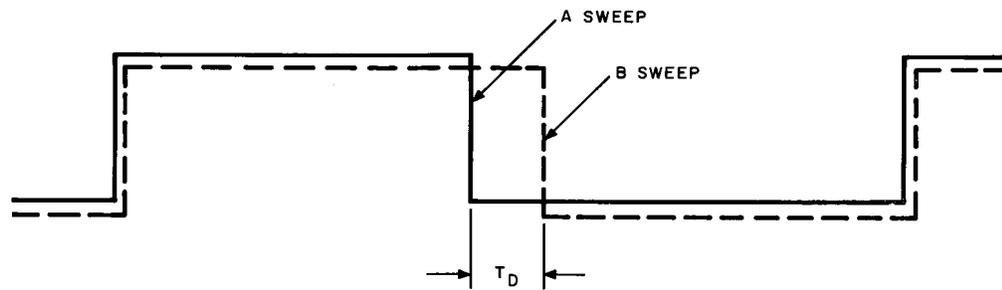

Fig. 68A — MIL. STD 188B Interface Test
- (2) Set the controls on the oscillator so that the input sine wave to terminal 7 is about 1.5 volts rms with a period of $200 (\pm 10.0) \mu\text{sec}$ (5000 Hz).
- (3) Make the following settings and connections on the scope:
- (4) Adjust the TIME BASE B STABILITY and TRIGGERING LEVEL controls to obtain a display of the waveform on test point 4. Overlay the CHAN A and CHAN B waveforms as shown in Fig. 68A by adjusting the AMPLIFIER VERTICAL POSITION controls. The TRIGGERING LEVEL control should be set in a region where a slight counterclockwise or clockwise movement does not cause T_D to vary.
- (5) Adjust potentiometer R10 until the negative transition of the A sweep precedes the negative transition of the B sweep by approximately $20 \mu\text{sec}$.
- (6) Reduce the amplitude of input sine wave to $0.35 (\pm 0.01)$ volt rms.
- (7) Rotate potentiometer R10 clockwise until the negative transition of the A sweep precedes the negative transition of the B sweep by approximately $4 \mu\text{sec}$ (ie, T_D is approximately $4 \mu\text{sec}$ as shown in Fig. 68A).
(8) Set the HORIZONTAL DISPLAY selector to the B-INTENSIFIED-BY-A position. Set the TIME BASE A TIME/CM selector to 1 μsec .
(9) Adjust the delay time multiplier until the intensified portion of the sweep overlays the negative transitions of the displayed waveforms.
(10) Rotate the HORIZONTAL DISPLAY selector to the A-DELAYED-BY-B position.
(11) Rotate R10 clockwise until T_D is less than 0.5 μsec . Because of backlash, it is important that the final setting be made in the clockwise direction. If T_D is made greater than 0.5 μsec by excessive clockwise rotation of R10, back off in the counterclockwise direction until T_D is approximately equal to 10 μsec , then reduce T_D to less 0.5 μsec by rotating R10 in the clockwise direction.
(12) Set the HORIZONTAL DISPLAY selector to the B position. Set the AMPLIFIER MODE switch to the A ONLY position. reduce T_D to less 0.5 μsec by rotating R10 in terminal 7 to 0.1 (± 0.005) volt rms. A square wave, with arbitrary duty cycle, should be observed at test point 4. No time base measurements need be taken.
(13) After initial adjustment of R10 and upon subsequent tests of the MIL. STD 188B interface circuit pack, it shall not be required to adjust R10 if T_D is less than 4 μsec .